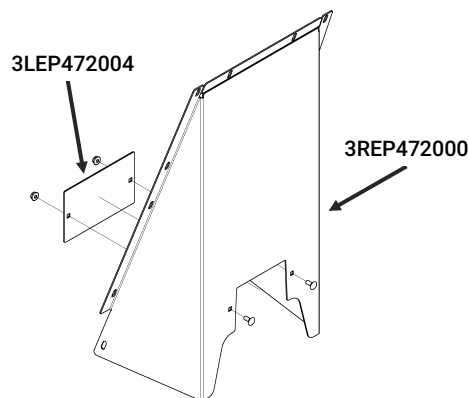

Figure 5
- A. Locate the Wire Raceway Cover Kit [4LEK472003] which consists of the Wire Raceway Cover Panel [3LEP472004], (2) carriage bolts [3X36], and (2) whiz nuts [3X16Z].
- B. If not using the OEM Wire Raceway, place the Wire Raceway Cover Panel on the inside of the Recess Panel [3REP472000] and secure with the (2) fasteners (Fig 5). If the OEM Wire Raceway is to be utilized, install only the fasteners in order to fill in the holes. Tighten the fasteners with a 7/16" socket.